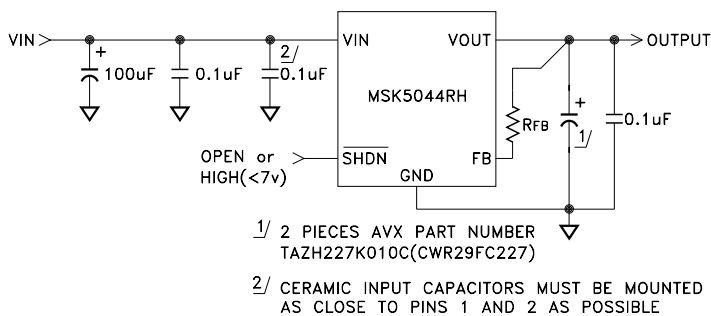

FIGURE 1
- ① Unless otherwise specified V_{IN}=5.0V, V_{OUT}=2.5V and I_{OUT}=1.0A. See Figure 1 for typical application circuit.
- ② Guaranteed by design but not tested. Typical parameters are representative of actual device performance but are for reference only.
- ③ Verified during line regulation test.
- ④ Industrial grade devices shall be tested to subgroup 1 and 4 unless otherwise specified.
- ⑤ Military grade devices ("H" Suffix) shall be 100% tested to subgroups 1,2,3 and 4.
- ⑥ Subgroup 5 & 6 testing available on request.
- ⑦ Subgroup 1,4 TA = TC = +25°C
The output voltage of the MSK5044RH is set with a single resistor, see Figure 1 (Typical Application Circuit). Select the value of RFB using the formulas below.